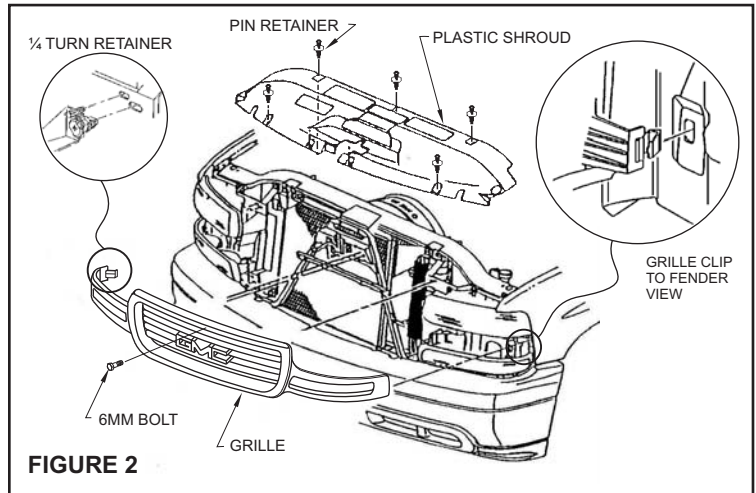

FIGURE 2
- STEP 3. Remove plastic shroud above grille by removing seven pin retainers. Pull center pin up with small flat screwdriver. **SEE FIGURE 2.**
- STEP 4. Carefully remove grille from vehicle by removing the 6mm bolt from top of grille. Turn the four retainers a 1/4" turn counterclockwise with a Phillips screwdriver. Pull on outer edge of grille by applying firm pressure away from the fender. Repeat for other side. **SEE FIGURE 2.**